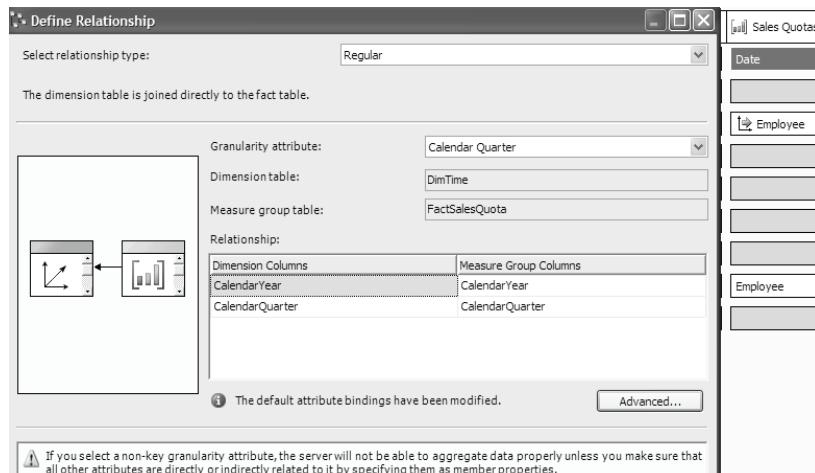

Figure 5.6 Set up an appropriate granularity attribute to define the dimension grain.
- Configure the relationship grid as shown in Figure 5.6. Ignore the informational message about the attribute bindings. It is displayed because we are overwriting the table relationship from TimeKey to the combination of Calendar Year and Calendar Quarter. If we want to fix this warning, we could change the data source or DSV relationship to use the Calendar Year–Calendar Quarter combination instead of using the TimeKey column. Either way, it will work just fine.